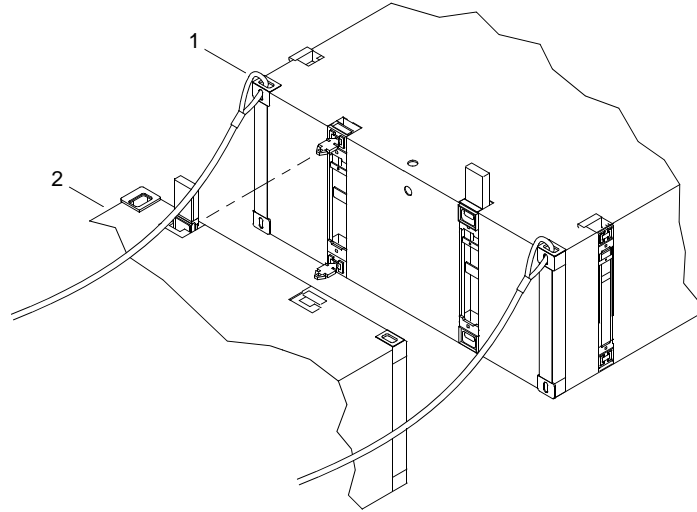

Figure 8. Separating Module Strings in Water
1. Attach tag lines to ISO corner fittings (figure 8, item 1).
4. Using tag lines, maneuver modules (figure 8, item 2) into position for stowage.